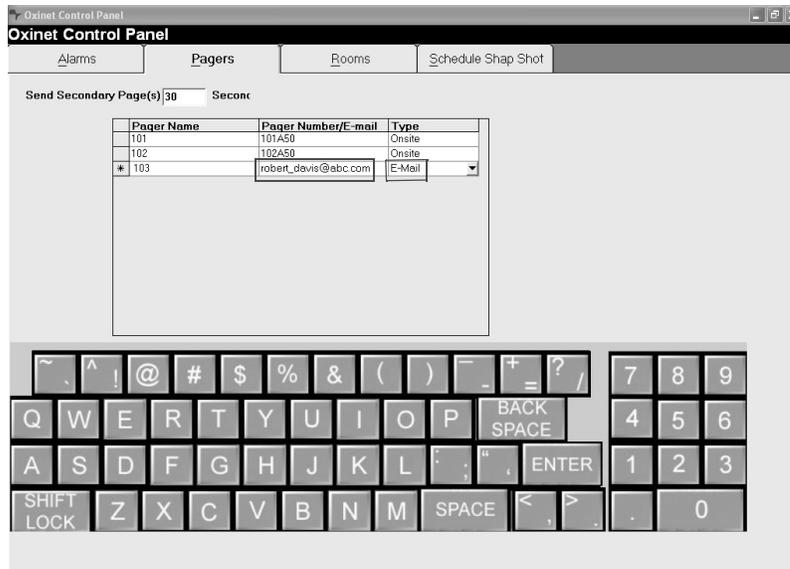

Figure 28: Pagers Menu — Entering Pager E-mail
- 3B If the Oxinet III system is connected to a SMTP e-mail system on the hospital’s intranet and the Oxinet III system is connected to that intranet, you can type an e-mail address instead, then change the *Type* to **E-Mail** as shown in Figure 28.